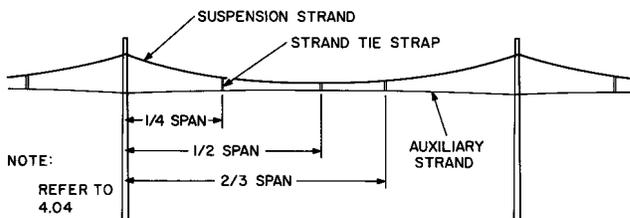

Fig. 2—Inverted Auxiliary Strand
4.04 In spans less than 200 feet, tie straps are usually required only at the 1/4- and 2/3-span points. If dancing continues to be experienced, add a tie strap at the 1/2-span point. In spans over 200 feet, tie straps are required at the 1/4-, 1/2-, and 2/3-span points. Fig. 2 illustrates the auxiliary strand and tie strap arrangements.